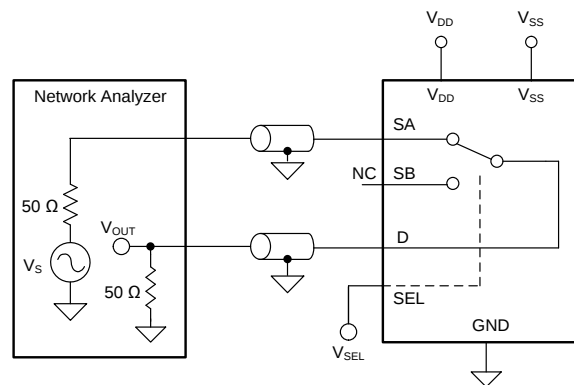

图 26. Bandwidth Measurement Setup
Bandwidth is defined as the range of frequencies that are attenuated by < 3 dB when the input is applied to the source pin (Sx) of an on-channel, and the output is measured at the drain pin (D) of the TMUX6136. 图 26 shows the setup used to measure bandwidth of the mux. Use 公式 4 to compute the attenuation.